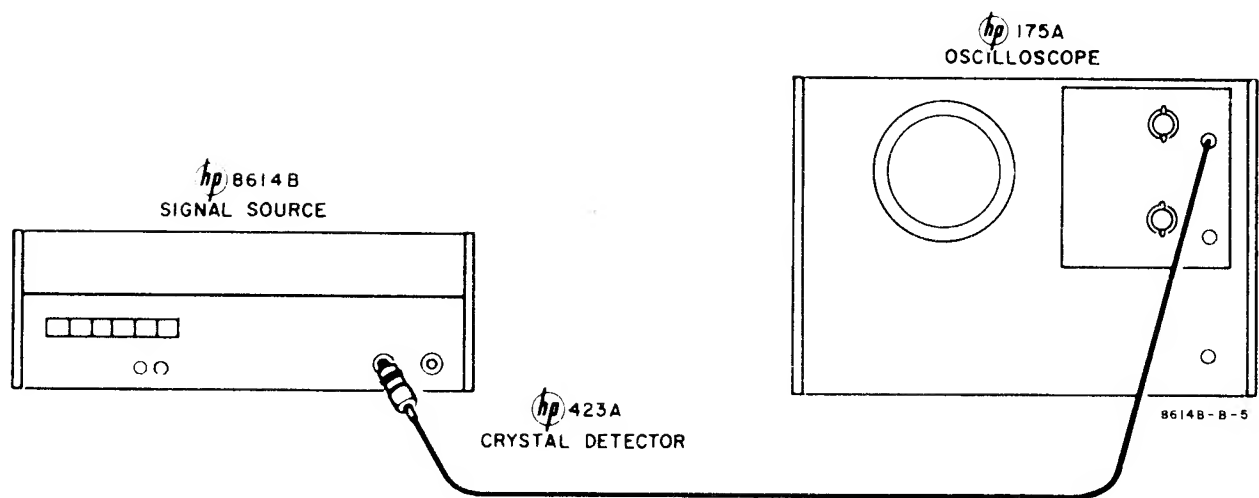

Figure 5-12. Square-Wave Modulation Adjust
- Connect instruments as shown in Figure 5-12.
- a. Connect instruments as shown in Figure 5-12.